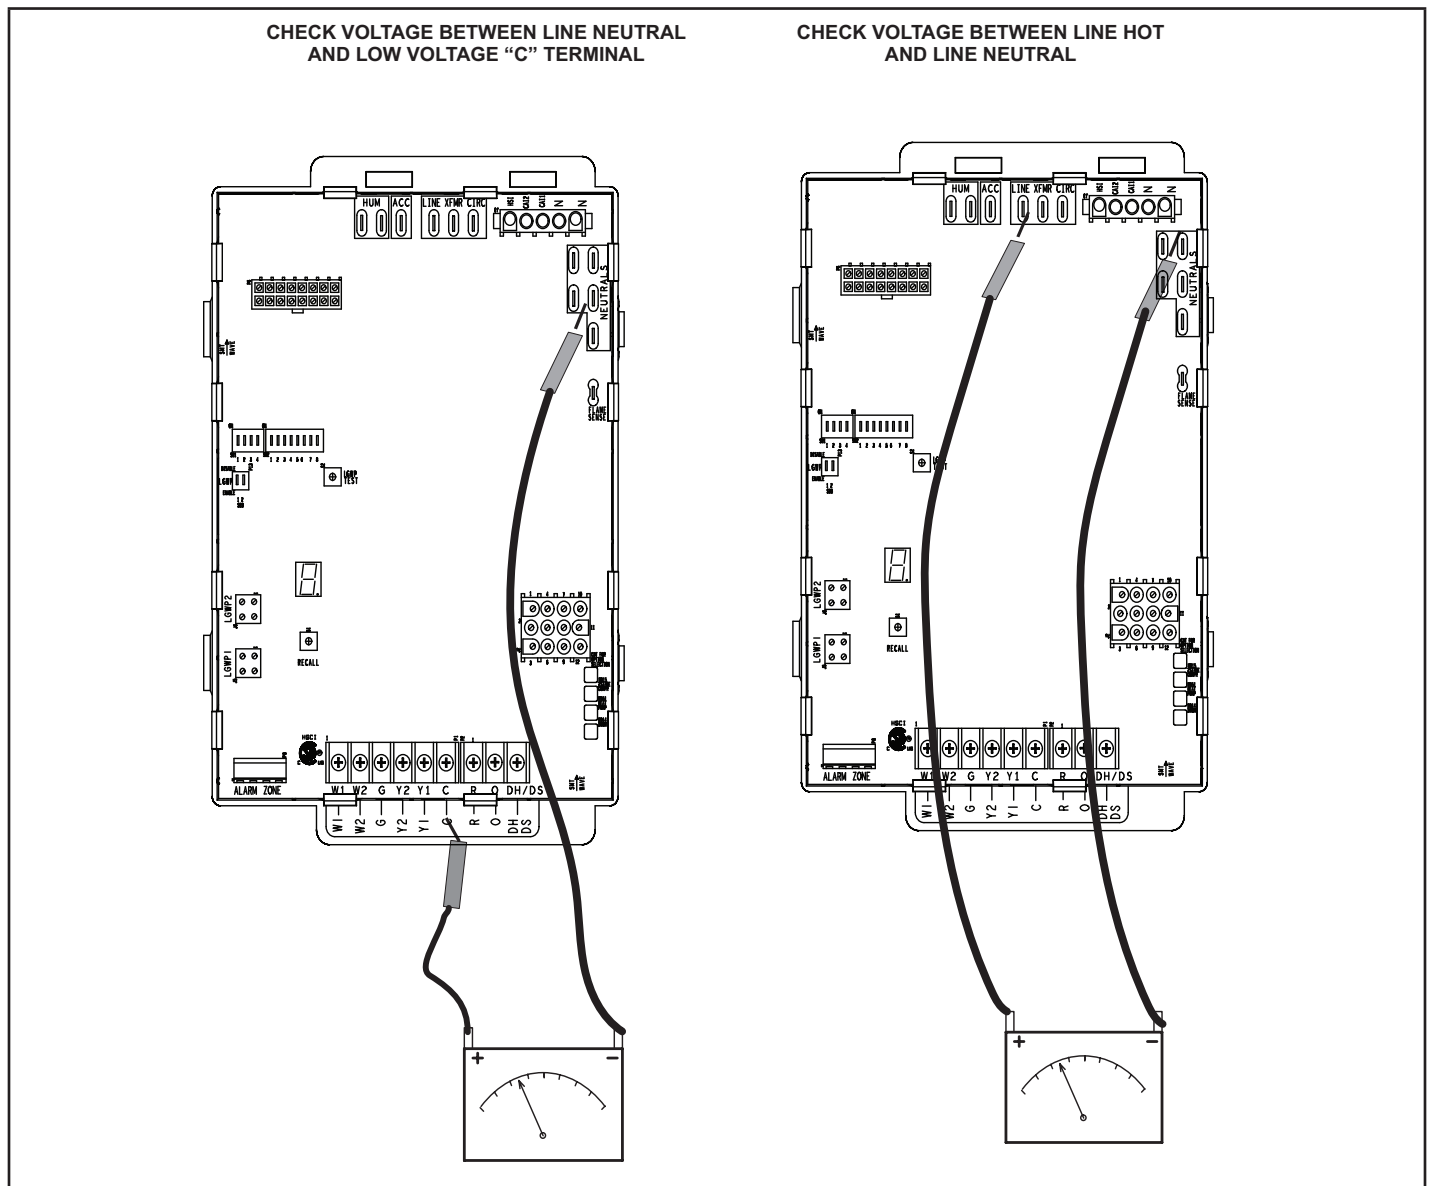

FIGURE 50
- 1 - Measure the AC voltage between Line Neutral (spade terminals) and "C" terminal (low voltage terminal block) on the integrated control. See FIGURE 50. A wide variation in the voltage between Line Neutral and "C" as a function of load indicates a poor or partial ground. Compare the readings to the table below. If the readings exceed the maximum shown in TABLE 28, make repairs before operating the furnace.
- 2 - In addition, measure the AC voltage from Line Hot to Line Neutral (spade terminals) on the integrated control. See FIGURE 50. This voltage should be in the range of 97 to 132 Vac.